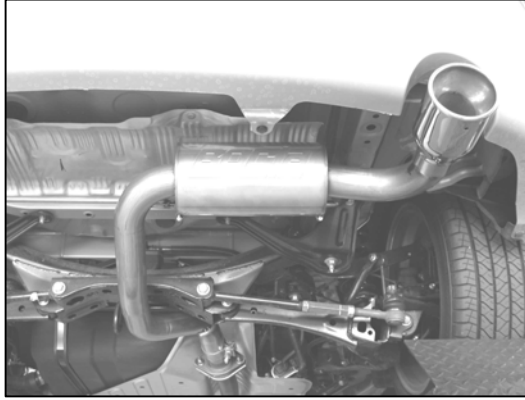

Figure 3
2. Place the flared pipe/flange assembly into position as shown in figure 3 using the original hardware and gasket and the nuts supplied with your system.